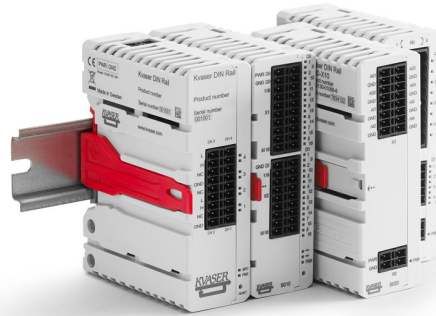

Figure 7: Pull the module out from the DIN Rail.
2. Pull the module out from the DIN Rail, see Figure 7 on Page 13.